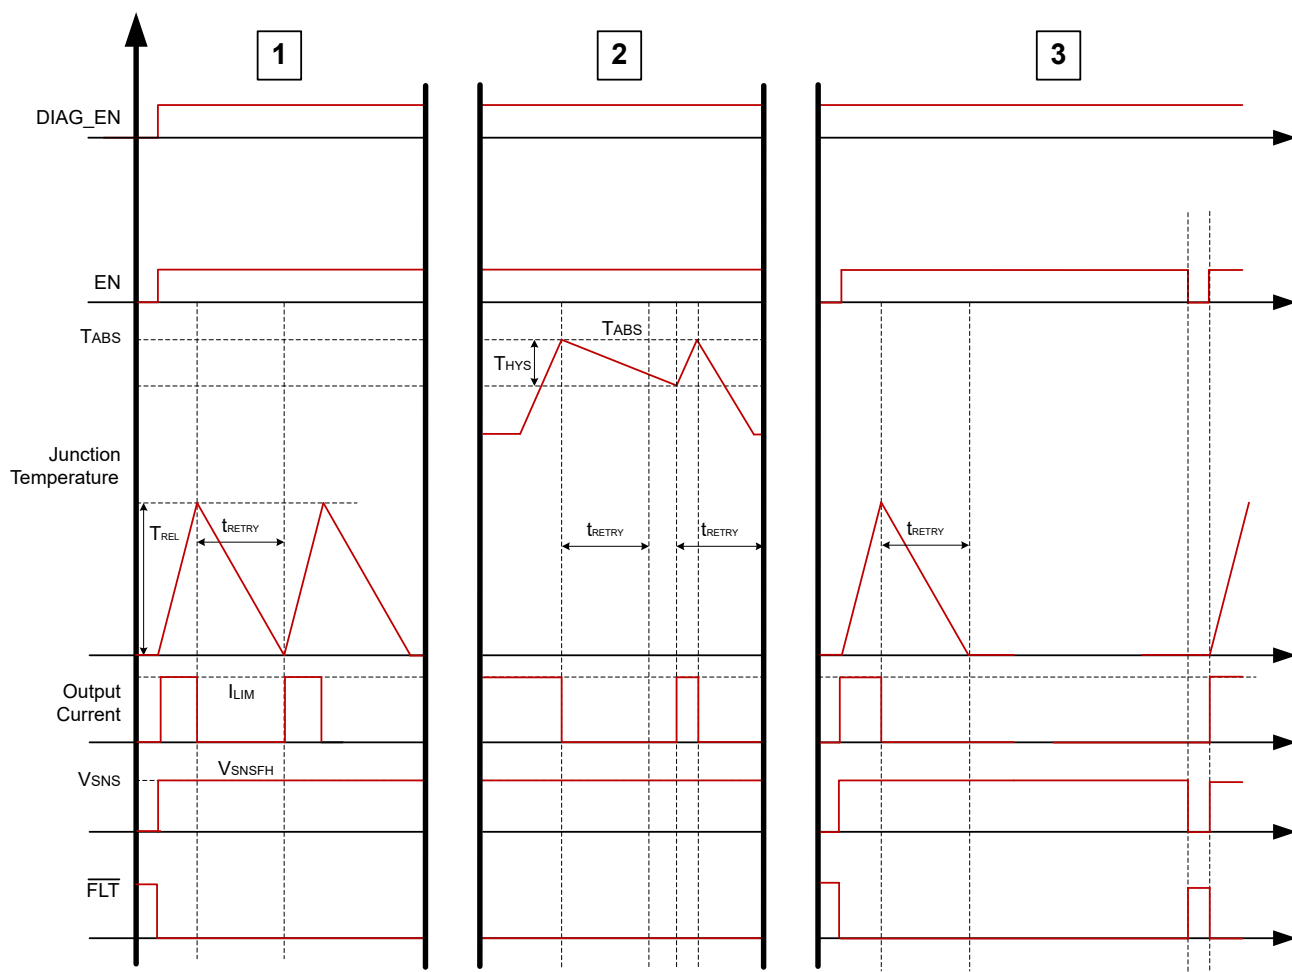

Figure 7-14. Thermal Behavior
The thermal protection behavior can be split up into three categories of events that can happen. Figure 7-14 shows each of these categories.
1. **Relative thermal shutdown:** The device is enabled into an overcurrent event. The output current rises up to the I_{LIM} level and the \overline{FLT} goes low. With this large amount of current going through the junction temperature of the FET increases rapidly with respect to the controller temperature. When the power FET temperature rises T_{REL} amount above the controller junction temperature $\Delta T = T_{FET} - T_{CON} > T_{REL}$, the device shuts down. For auto-retry version, after t_{RETRY} , the part tries to restart. The latch version requires EN to be toggled to re-enable the channel. The \overline{FLT} pin is asserted until the fault condition is cleared. The first plot in Figure 7-14 shows the relative thermal shutdown behavior for the auto-retry version.
2. **Absolute thermal shutdown:** the device is still enabled in an overcurrent event. However, in this case the junction temperature rises up and hits an absolute reference temperature, T_{ABS} , and then shuts down. For auto-retry version, the device does not recover until both $T_J < T_{ABS} - T_{hys}$ and the t_{RETRY} timer has expired. For latch version, toggling EN is required to re-enable the channel. The second plot in Figure 7-14 shows the absolute thermal shutdown behavior for the auto-retry version.
3. **Latch behavior:** the device is enabled into an overcurrent event. The DIAG_EN pin is high so that diagnostics can be monitored on SNS and FLT. For the latched version of the device, if the part shuts down due to a thermal fault, either relative thermal shutdown or absolute thermal shutdown, the device does not enable the channel until the EN pin is toggled. The third plot in Figure 7-14 shows the relative thermal shutdown behavior for the variants with LATCH pin when LATCH pin is HIGH.